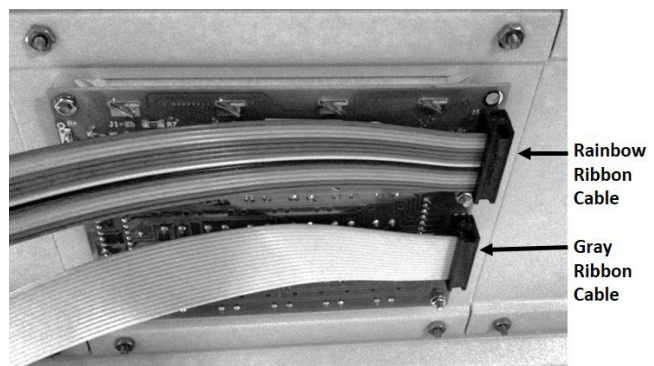

Fig. 10
4. Connect Rainbow Ribbon Cable to Display Board. The brown wire goes towards the top of the cart (Fig. 10)
5. Connect Gray Ribbon Cable to Control Board. The red wire goes towards the top of the cart. (Fig. 10)